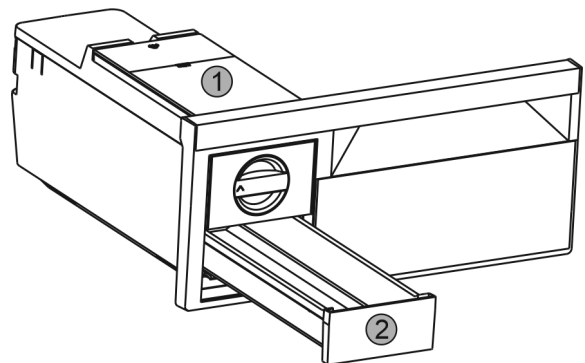

Fig. 62
- ▶ Take out the water tank *Fig. 62 (1)* and ice cube drawer *Fig. 62 (2)*.